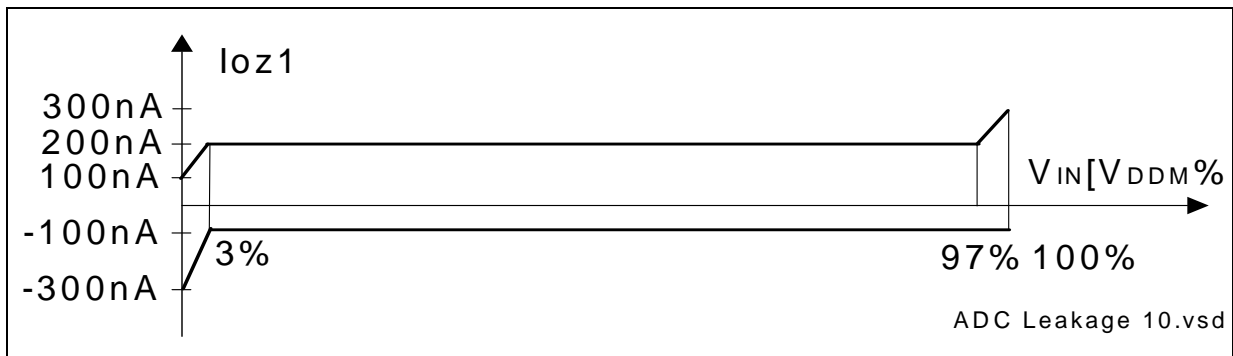

Figure 20 ADC0/ADC1 Analog Inputs Leakage
- 11) The leakage current definition is a continuous function, as shown in **Figure 20**. The numerical values defined determine the characteristic points of the given continuous linear approximation - they do not define step function.